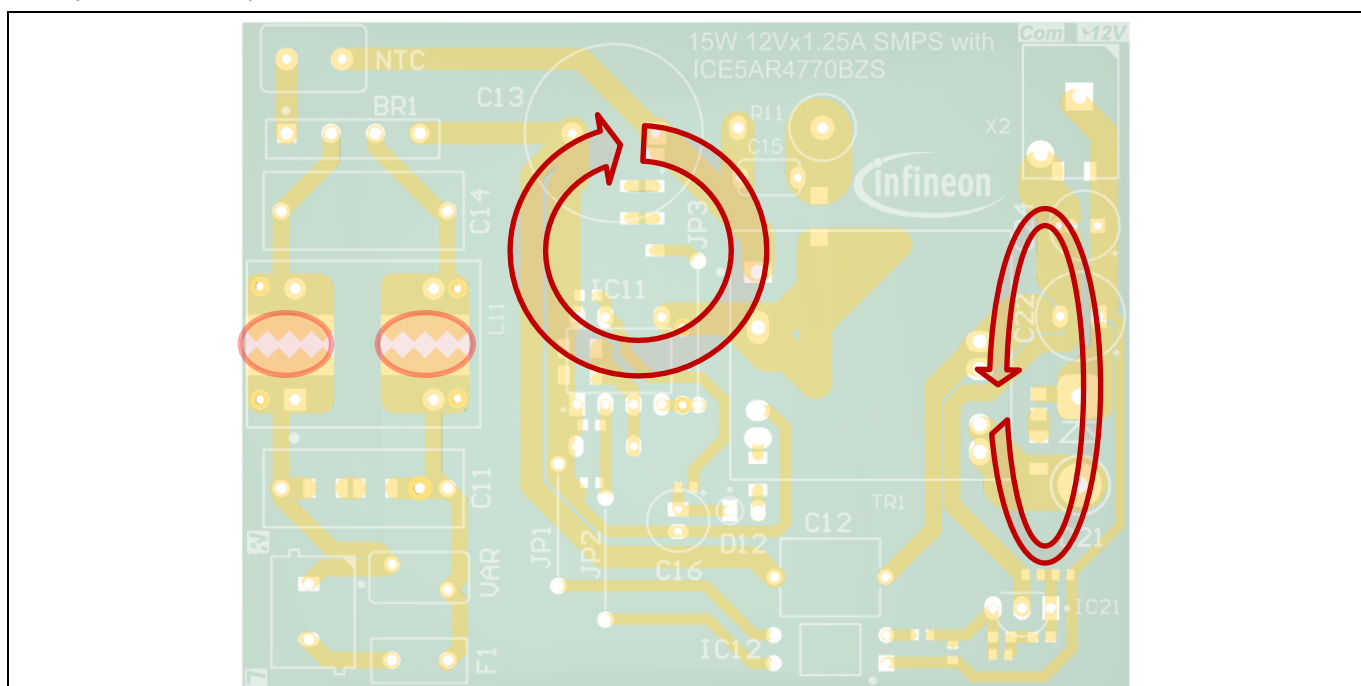

Figure 6 PCB layout tips
- The power loop needs to be as small as possible (see Figure 6). There are two power loops in the demo design; one from the primary side and one from the secondary side. For the primary side, it starts from the bulk capacitor (C13) positive to the bulk capacitor negative. The power loop components include C13, the main primary transformer winding (pin 1 and pin 1 of TR1), the DRAIN pin and the CS pin of the CoolSET™ IC11 and CS resistors R14 and R14A. For the secondary side, the 12 V output starts from the secondary transformer windings (pin 7 of TR1), output diode D21 and output capacitors C22 and C24.
- Separating the HV components and LV components, e.g. the clamper circuit (D11, R11 and C15) at the top part of the PCB (see Figure 6) and the other LV components at the lower part of the PCB, can reduce the spark-over chance of the high energy surge during ESD or a lightning surge test.